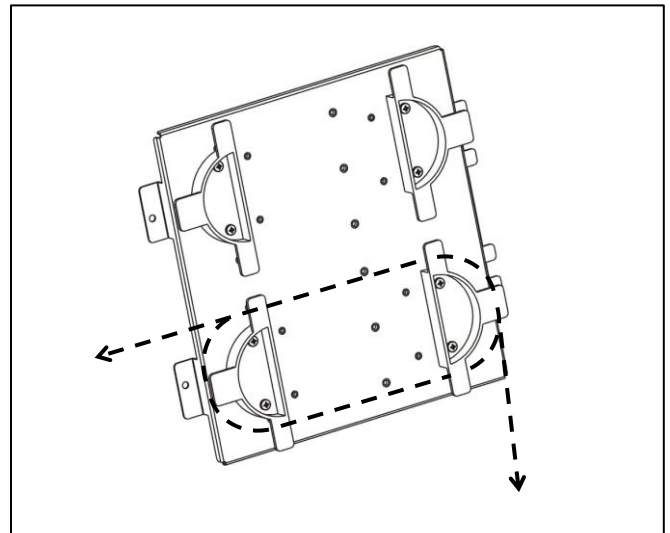

Figure 11. Cable take-up reel routing
- ① Slide the two narrower tabs at the edge of the SPL-4H into the openings on the side of the WR-5UI2, toward the rear of the mounting.
- ② Align the wide tabs at the front edge of the SPL-4H with the threaded holes on the side of the WR-5UI2 frame. Use the two (2) included #10-32 x 3/8" screws to securely fasten the side plate to the frame.
- ③ Carefully wrap cables around the take-up reels to reduce slack as needed. Example routing is shown in Figure 11. Alternate mounting holes are included on the side plate for repositioning the half-reels, if desired.